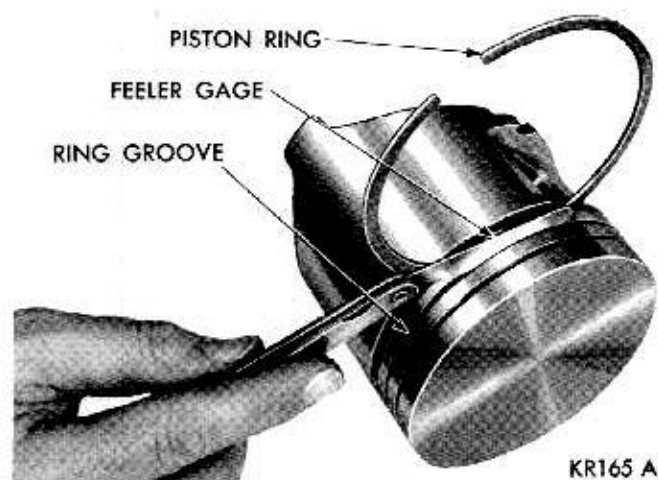

Fig. 37—Measuring Piston Ring Clearance
(1) Measure piston ring gap about two inches from bottom of cylinder bore in which it is to be fitted. (An inverted piston can be used to push rings down to insure positioning rings squarely in cylinder wall before measuring.)
(2) Insert feeler stock in the gap. Ring gap should be between .013 to .052 inch for the compression rings and .015 to .062 inch for the oil ring steel rails in standard size bores. Maximum gap on .005 inch O/S bores should be .060 inch for compression rings and .070 inch for the oil ring steel rails.
(3) Measure side clearance between piston ring and ring groove (Fig. 37). Clearance should be .0015 to .003 inches for the top compression ring and intermediate ring. Steel rail service oil ring should be free in groove, but should not exceed .005 inch side clearance.
(4) Install the three piece oil ring in lower ring groove using instructions in ring package.
(5) Install compression rings in middle and top groove as shown on Instruction sheet. Be sure the mark "top" on each compression ring faces top of piston.
(6) For the two top rings use ring installer Tool C-3673 for 383 cubic inch engines and Tool C-4001 for the 440 cubic inch engines.